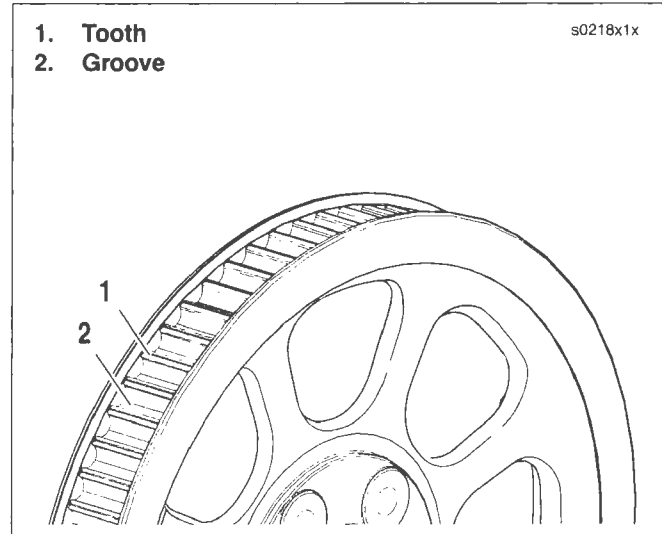

Figure 1-35. Rear Sprocket
1. See Figure 1-35. Inspect each tooth (1) of rear sprocket for:
2. To check if chrome plating has worn off, drag a scribe or sharp knife point across the bottom of a groove (2) (between two teeth) with medium pressure.